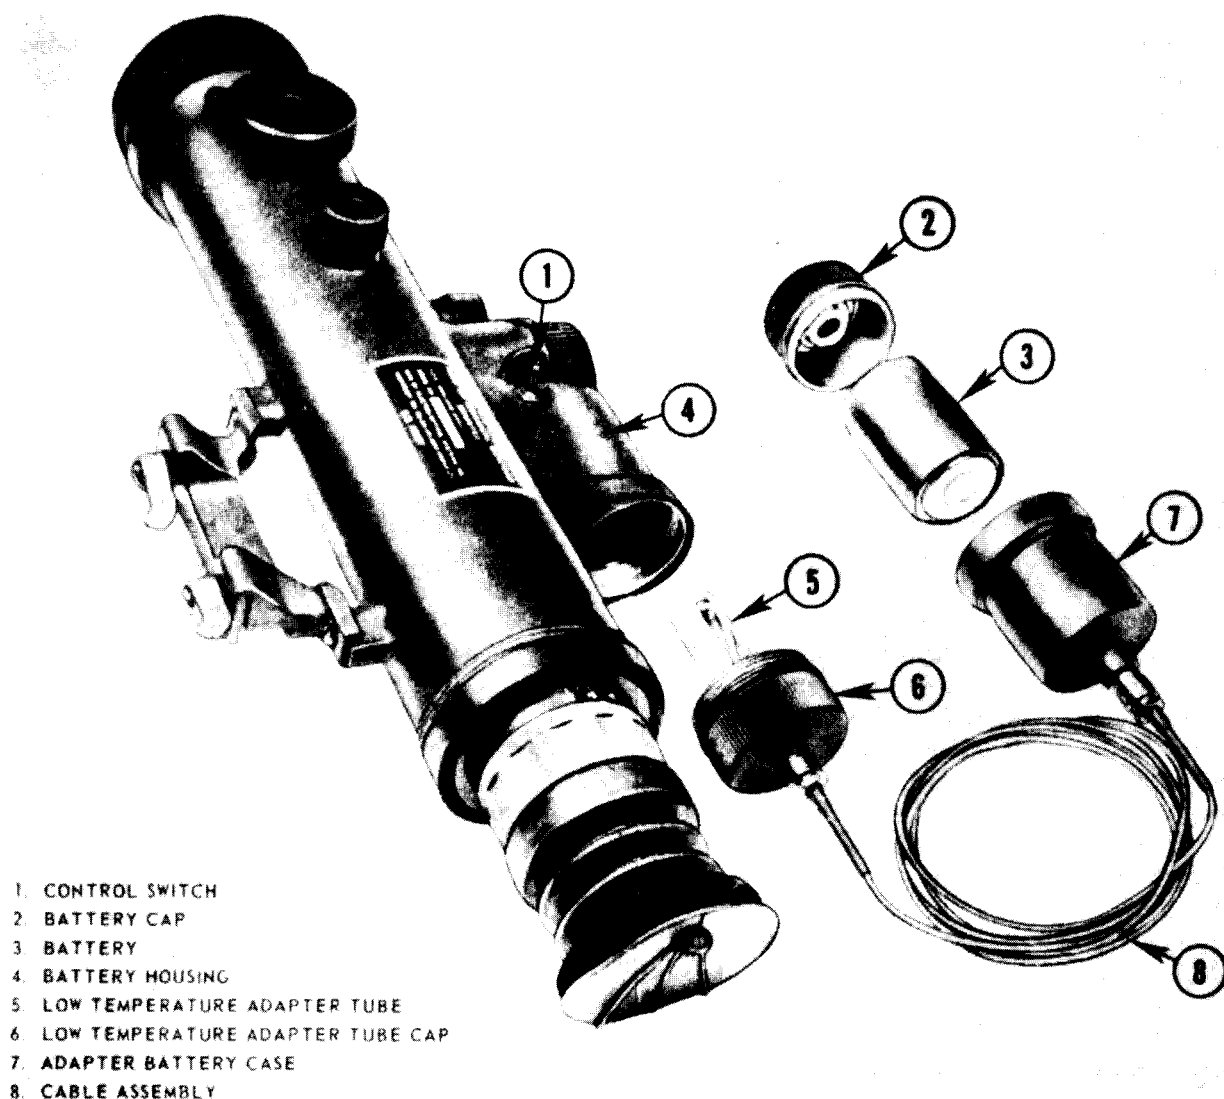

Figure 10. Installation of low temperatures adapter assembly.
f. Extreme Cold. A low temperature adapter assembly is provided as a special accessory to the Starlight Scope to permit operation in temperatures as low as -65° F. The assembly is installed (fig. 10) to the Starlight Scope as follows:
- (1) Insure the control switch is in the OFF position.
- (2) Remove the battery cap and battery from the battery housing.
- (3) Insert the low temperature adapter tube into the battery housing and turn the tube cap clockwise until secured.